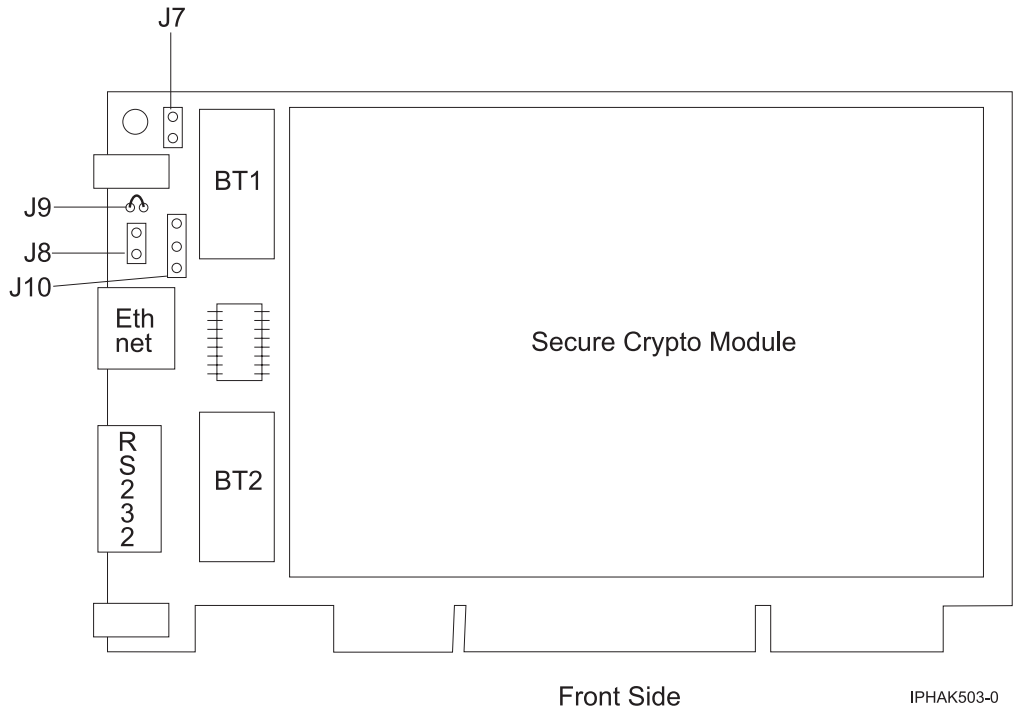

Figure 8. Front side of the adapter
6. Insert one of the new batteries into the battery tray provided with the kit. Align the + on the battery with the + on the battery tray (the end with the red wire). Connect the tray wires to the J10 connector located near the RS-232 serial port, as shown in Figure 8 on page 43. The connector is polarized to ensure a proper connection.